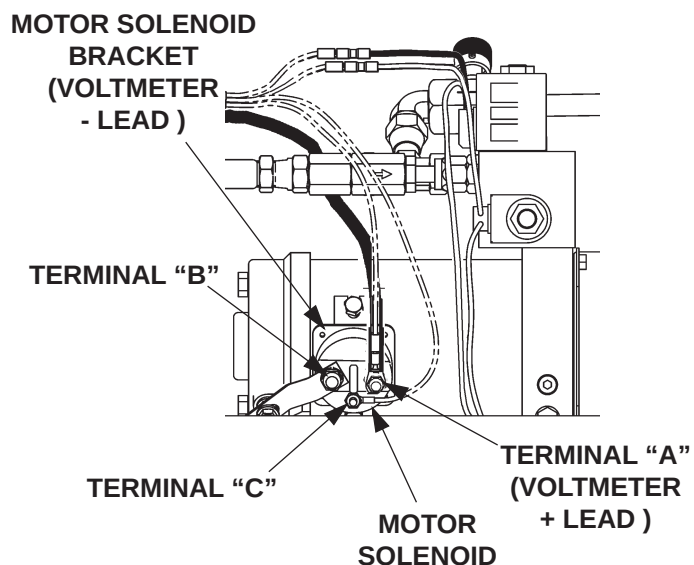

FIG. 40-1
1. Connect voltmeter between Motor Solenoid Terminal “A” and Bracket (**FIG. 40-1**) to verify that battery power is getting to “A”. Recharge the battery if voltmeter indicates less than 12.6 Volts DC.
3. Touch a jumper wire to terminals “A” & “C” (**FIG. 40-1**). If motor runs check Switch, the switch connections, and White wire. Check and correct wiring connections or replace the Switch.
4. Touch heavy jumper cables to terminals “A” & “B” (**FIG. 40-1**).